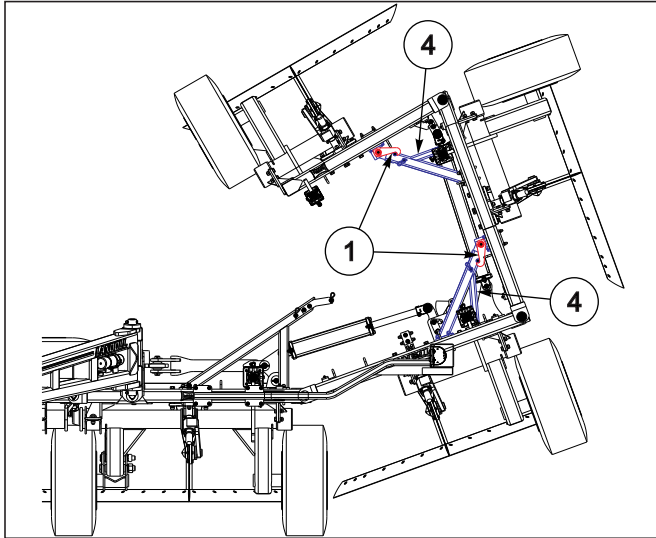

Figure 4-7: Folding Gravity Hooks
2. Begin folding the machine. During the folding process, visually check that all gravity hooks (1) are engaging correctly See Figures 4-7.
4. Begin unfolding the machine. During the unfolding process, **it may be necessary to slightly reverse cylinder travel to allow the gravity hooks (1) to disengage** See Figures 4-7.